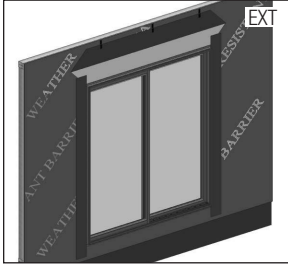

FIG. 18
- A) Cut and apply side flashing. Side flashing should run from the bottom of the sill flashing to 4" above the rough opening. (Fig. 18)